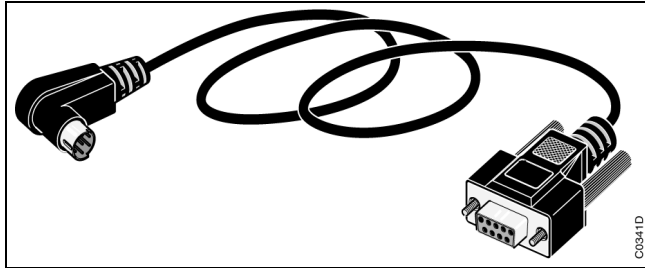

Figure 3-17 : 07 SK 51 communication cable
7.2.1. 07 SK 51 connection diagram (see Figure 3-17):